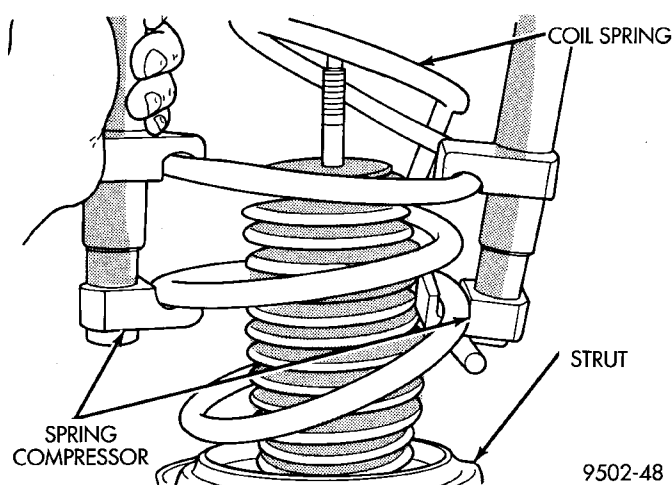

Fig. 31 Coil Spring And Compressor
(8) Remove the coil spring and spring compressor as an assembly from the strut (Fig. 31).
- (4) Lower the coil spring onto the strut unit (Fig. 31). Position end of coil spring against edge of spring isolator on lower spring seat of strut assembly.